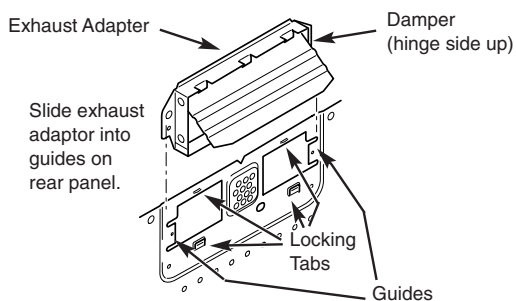

Figure 20
7. Insert the tabs on each side of the damper into the holes at the inside rear of the adapter. Attach the exhaust adapter to the back plate wall side. Push in securely until it is past the top locking tabs and in the lower locking tabs. Take care to assure the damper hinge is installed so that it is at the top and that the damper swings freely. See Figure 20.